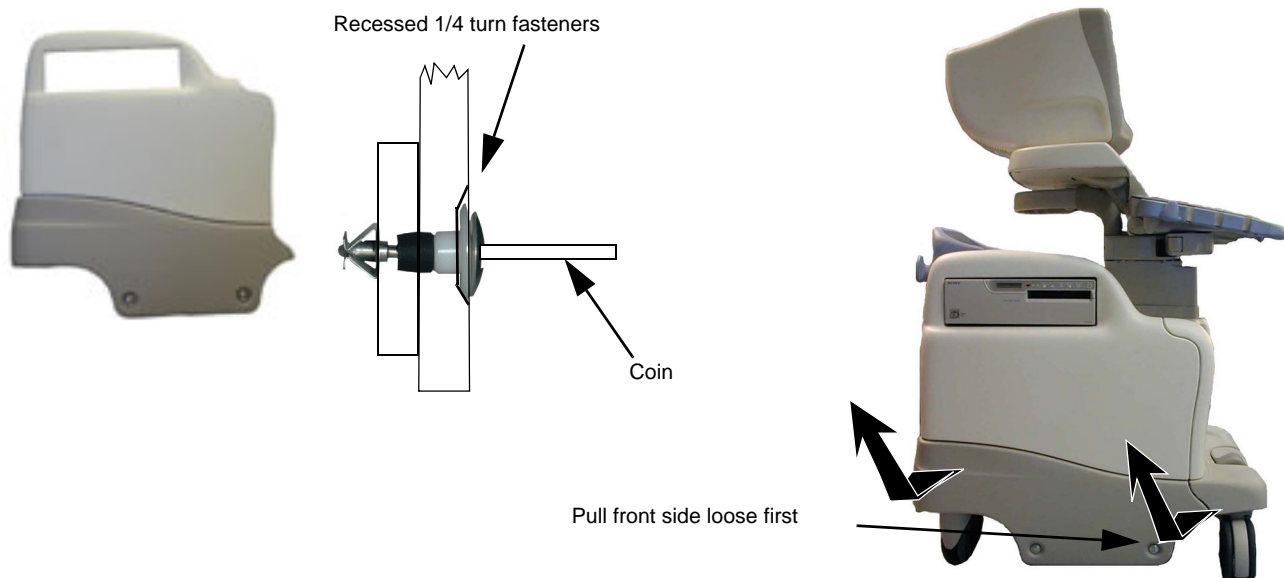

Figure 8-2 Removal of Side Covers
- 4.) Lift the side cover gently upwards until the three hooks at the top of the side cover are free from the three retainer slots in the top cover as shown in Figure 8-2.
NOTE: Figure 8-2 shows the right-side cover being removed. Repeat the same steps listed above to remove the left-side cover.